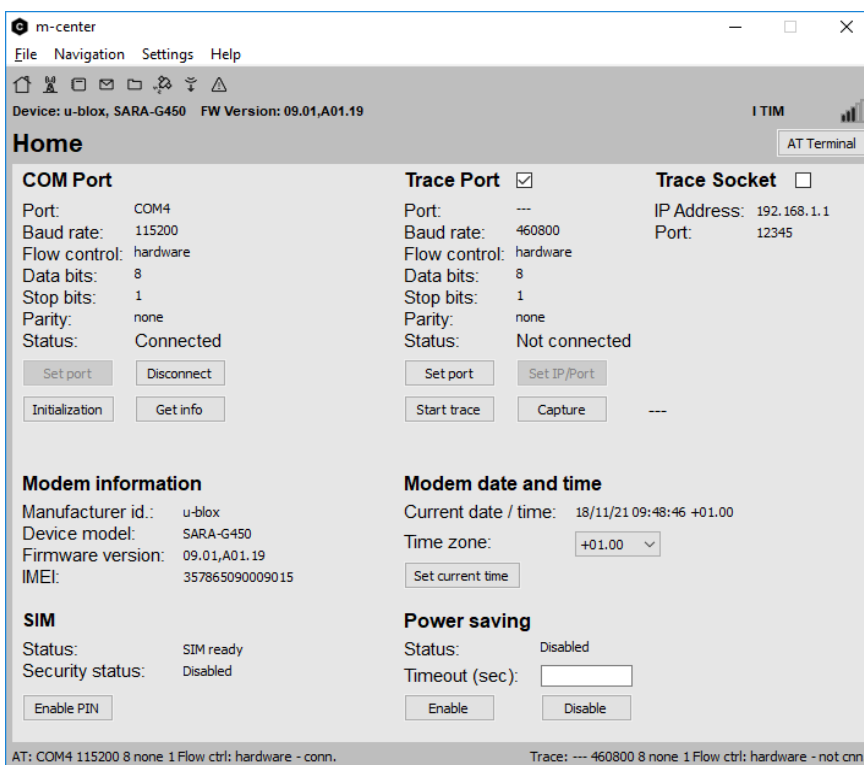

Figure 18: m-center Home page
2. Run the u-blox m-center tool: after the m-center start-up, the **Home** page appears, as shown in Figure 18.